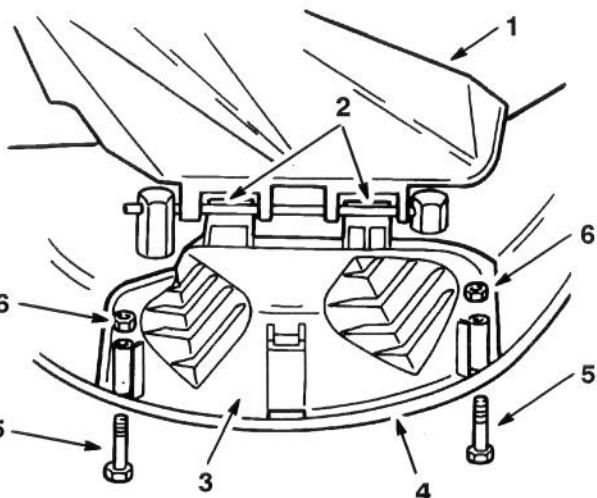

Figure 6
1. Lift the grass deflector and slide the tabs on top of the discharge cover under the grass deflector retaining rod. Rotate the discharge cover down over the opening, and onto the lower lip of the mower (Fig. 6).
2. Secure the discharge cover to the lower lip of the mower with 1/4-20 x 2 3/4" bolts and 1/4-20 nuts (Fig. 6).